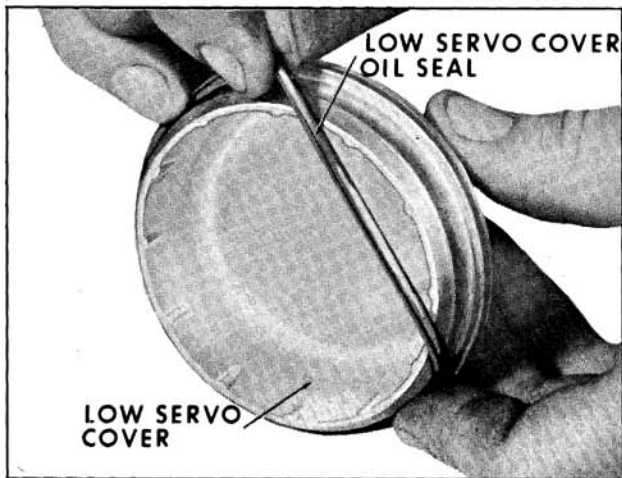

Fig. 6-500 Installing Low Servo Cover Oil Seal
2. Install low servo cover oil seal. (Fig. 6-500)